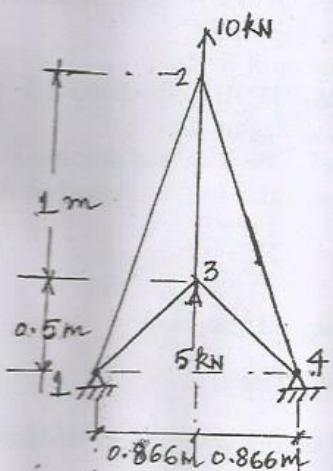

Fig. Q. 16 (a)
16. a) For the two dimensional truss structure shown in Fig. Q. 16 (a), formulate the global stiffness matrix [K]. The geometry and loading are symmetrical about centre line. Assume the area of cross section of all members is same Take $E = 2 \times 10^5 \text{ kN/m}^2$.